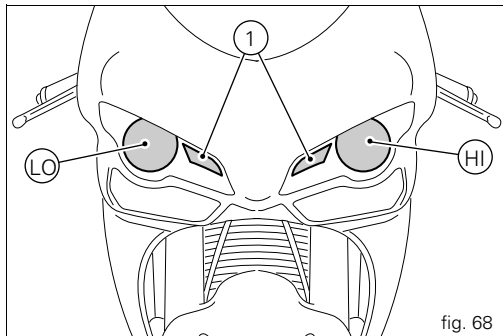

fig. 68
Before replacing a burnt-out bulb, make sure that the new one matches the voltage and wattage specifications in the "Electrical System" paragraph on page 106. Always check that the new bulb works before refitting removed parts; fig. 68 shows the position of the low beam (LO), high beam (HI) and side light (1) bulbs.